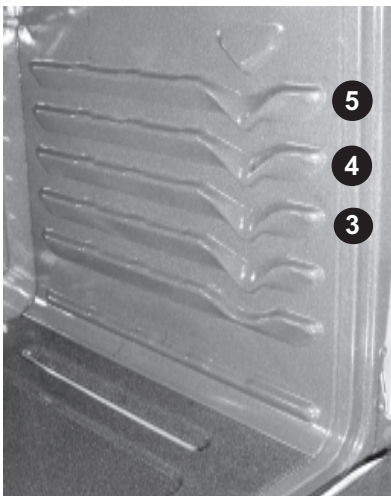

Fig. 1
- Place the insert on the broil pan, then place the food on the insert (See Fig. 1; some models). **DO NOT** use the broil pan without the insert or cover the insert with **aluminum foil**. The exposed fat could ignite.
### Broil Rack Position Table (Refer to Fig. 1)